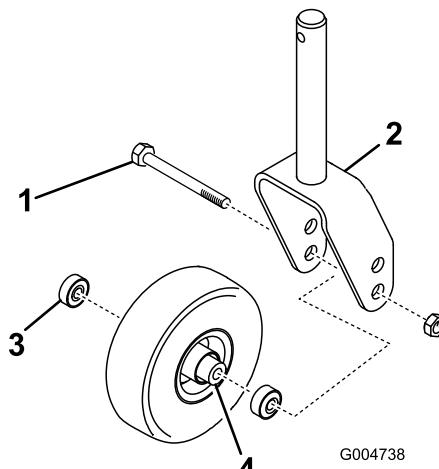
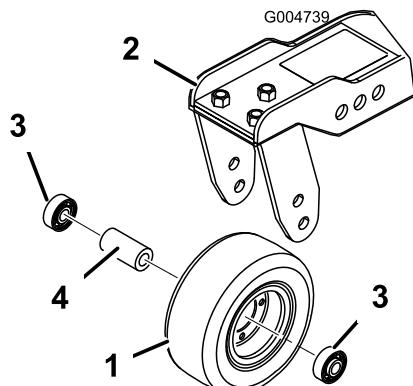

Figure 84
Figure 85
1. Remove the locknut from the bolt holding the caster-wheel assembly between the caster fork (Figure 84) or the caster-pivot arm (Figure 85).
2. Remove the bearing from the wheel hub and allow the bearing spacer to fall out (Figure 84 and Figure 85).